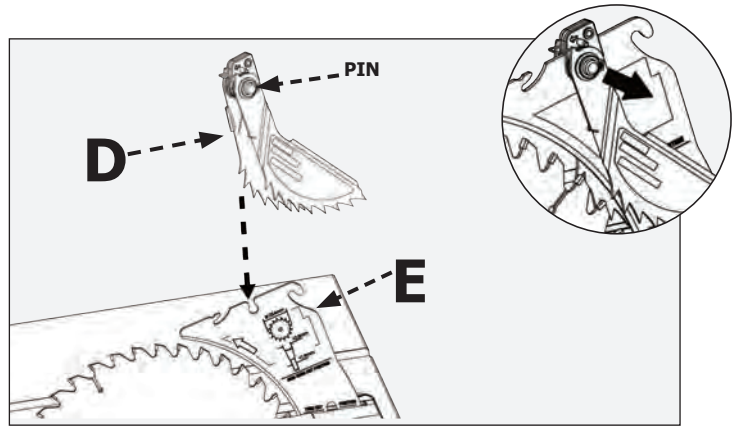

Figure 12
Riving knife (E) must be in the Through Cut position prior to installation of the anti-kickback pawls (D) and blade guard (F) (Fig. 12 and 13). Insert the pawl assembly (D) into the middle slot on the riving knife (E) as shown in (Fig. 12) while pressing the spring-loaded pin on the right side of the pawl assembly.
Once inserted, release the spring-loaded pin so that it pops back in to place (Fig. 12). Ensure that it is locked in place.